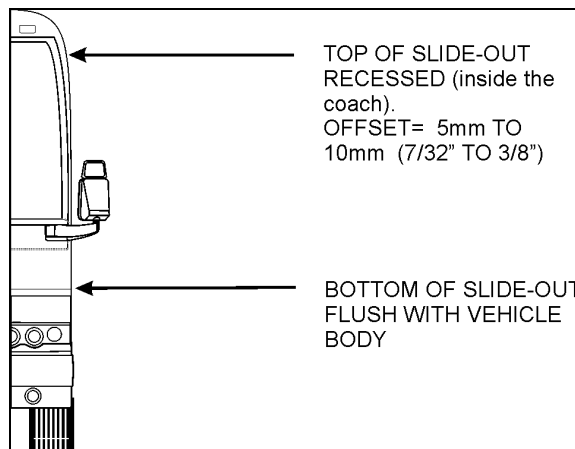

FIGURE 23: TILT ADJUSTMENT
- Using levelling screw 3, adjust the tilt in order to have the top of the slide-out recessed between 5mm and 10mm ($7/32$ " and $3/8$ " (see FIGURE 23).